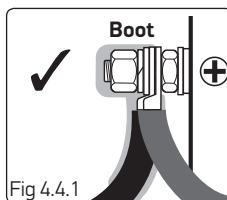
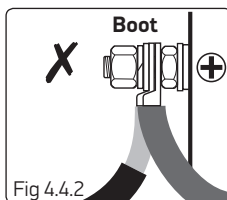
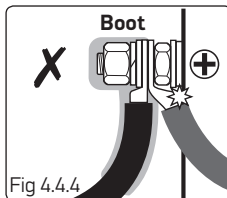

Fig 4.4.1
Fig 4.4.2
Fig 4.4.4
- ▶ Correct installation. Supplied cable boots are used and no bare wires exposed (Fig 4.4.1).
- ▶ Live wire exposed! (Fig. 4.4.2). Correct the cable installation to match (Fig 4.4.1).
- ▶ Crimp inverter ted and is touching motor! (Fig 4.4.4). Correct the cable installation to match as (Fig 4.4.1).